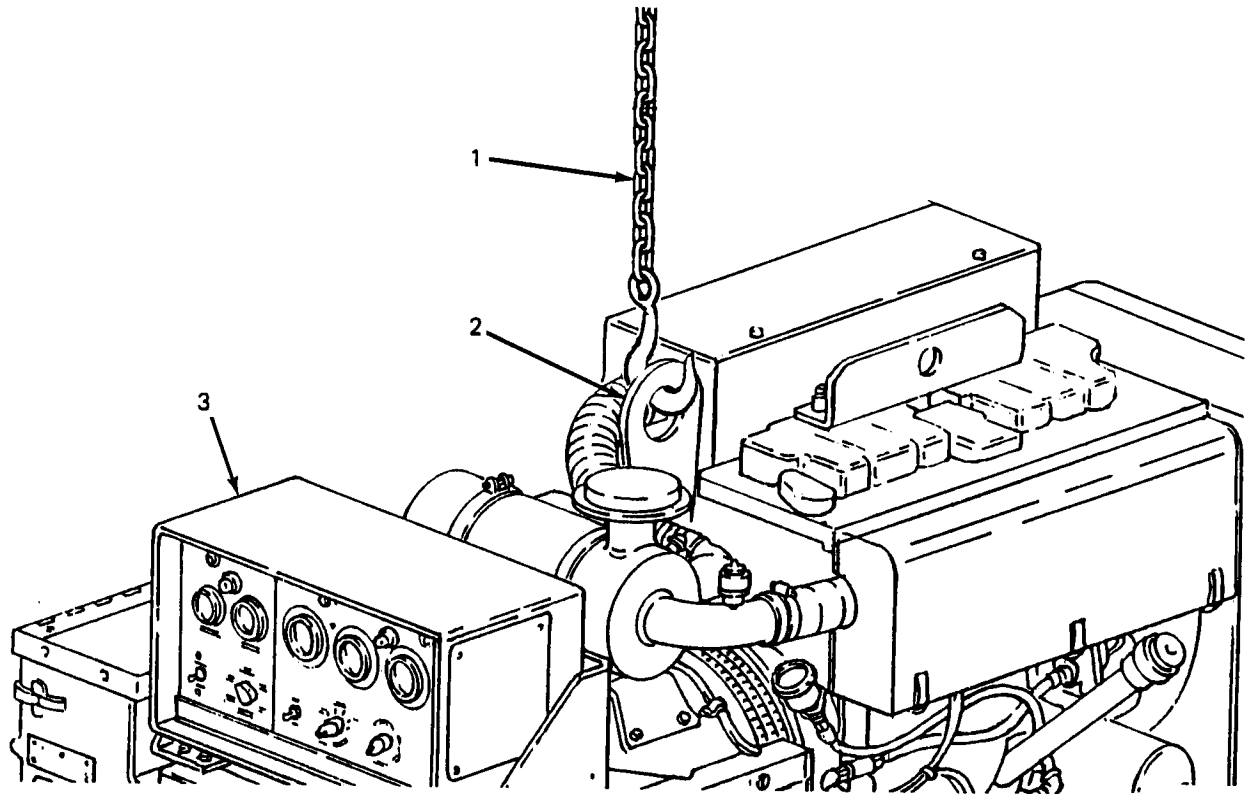

Figure 5-7. Lifting Generator Set.
- (7) Attach lifting equipment with a minimum lifting capacity of 1500 lb (1, figure 5-7) to lifting eye (2) on top of generator set (3) and remove generator set from trailer.
- (1) Attach lifting equipment with a minimum lifting capacity of 1500 lb (1, figure 5-7) to lifting eye (2) on top of generator set (3) and lift generator.